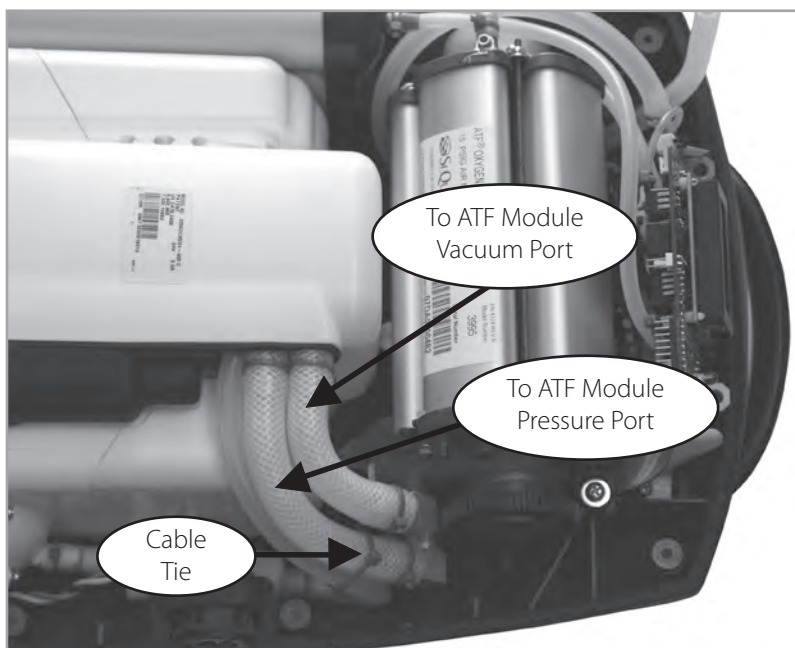

Figure 74: Removal of Compressor Pressure and Vacuum Hoses from ATF Module.
5. Cut the three green cable ties shown in Figure 74. Disconnect the two braided hoses from the pressure and vacuum ports of the ATF. Cap the three ATF module ports using tight fitting vinyl caps or vinyl electrical tape.
10. Install the braided tubes into the ATF pressure and vacuum ports as shown on Figure 74 on previous page. Secure joints with cable ties.
11. Use a cable tie to secure the silicone tube to the braid tube to ensure that there is NO kinking on the bend as shown on Figure 74 on previous page. Hand tightens the cable tie. Inspect the tubing to ensure the tubing is not kinked.